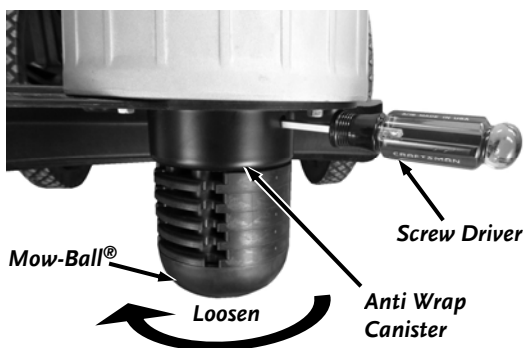

Figure 17
1. Align the hole in the Anti Wrap Canister with the hole in the internal housing at the location shown (**Figure 17**).
5. Insert the Screwdriver as shown in *Figure 17* on page 14 and tighten the assembly securely by turning the Mow-Ball® counterclockwise when looking down on the top of the Frame.